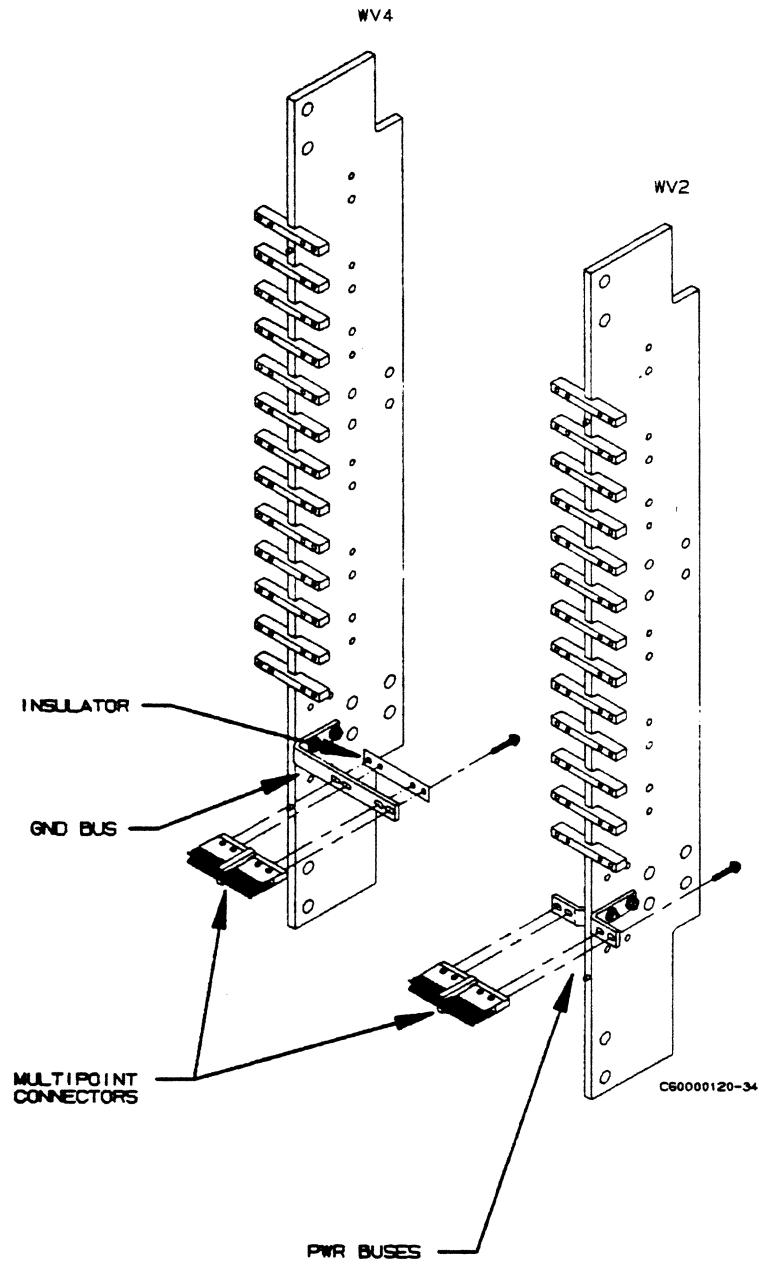

Figure 3-21. Ground and Power Bus Multipoint Connector Installation
- ___ 6. Loosely install CP-1 Regulator Pak multipoint connectors to power and ground buses on WV2 and WV4 (figure 3-21). Install WV4 ground bus insulator on back side of bus, between bus and WV3.